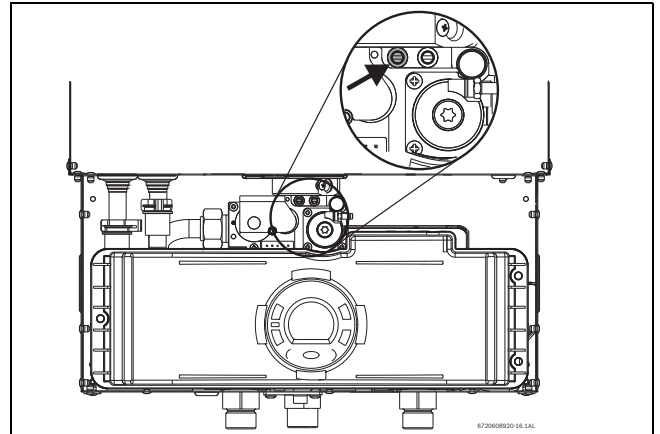

Fig. 47 Gas pressure test port (left tapping)
- ▶ Remove front cover and locate inlet gas pressure test port (see Fig.47).